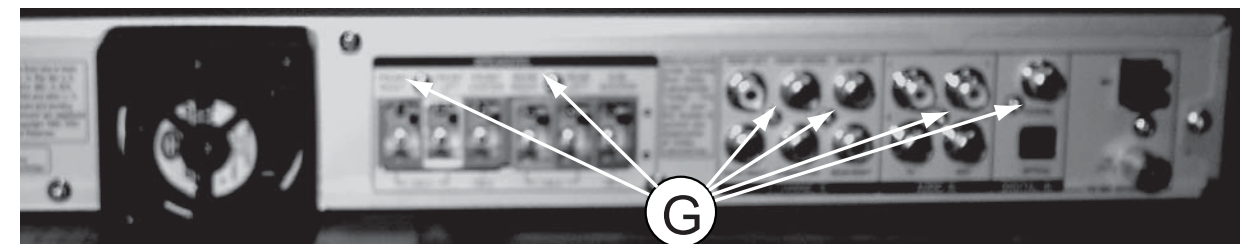

Figure 7
- 2) Loosen 6 screw " G " at the back panel as shown in figure 7.